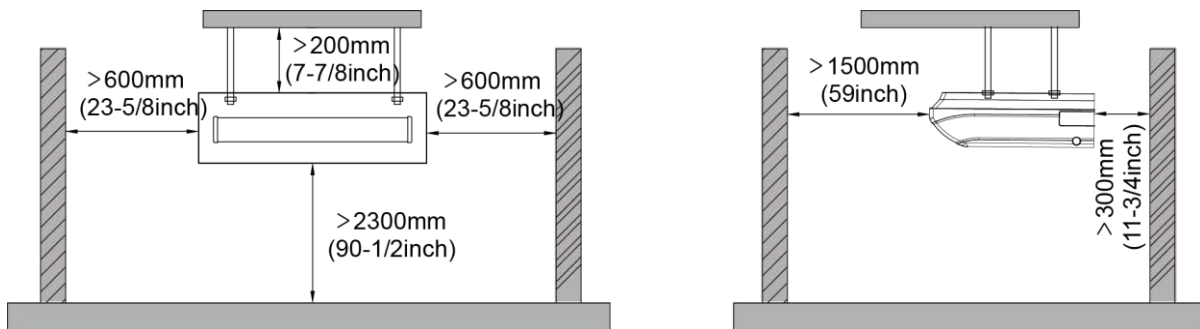

Figure 3-1-23
- (1) Install the unit at a place where is strong enough to withstand the weight of the unit.
- (2) The air inlet and outlet of the unit should never be clogged so that the airflow can reach every corner of the room.
- (3) Leave service space around the unit as required in Figure 3-1-23.